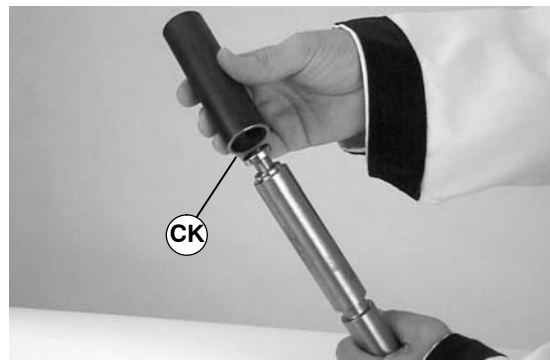

Figure 45
- Slide the sleeve of tool (part # 450282) (CK of Figure 45) over bearing.